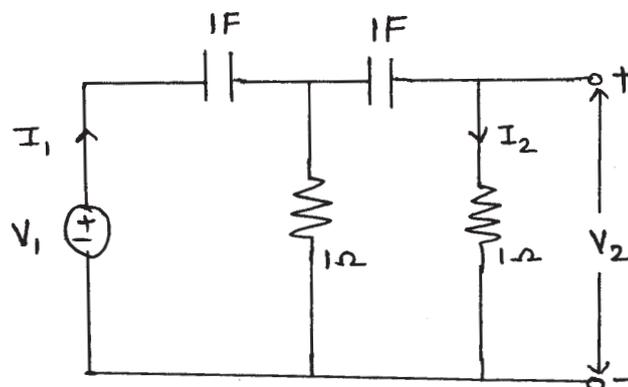

Fig 1 Q1(b)
- b) For the network shown in Figure 1, Find the expression for the following network functions : [8]